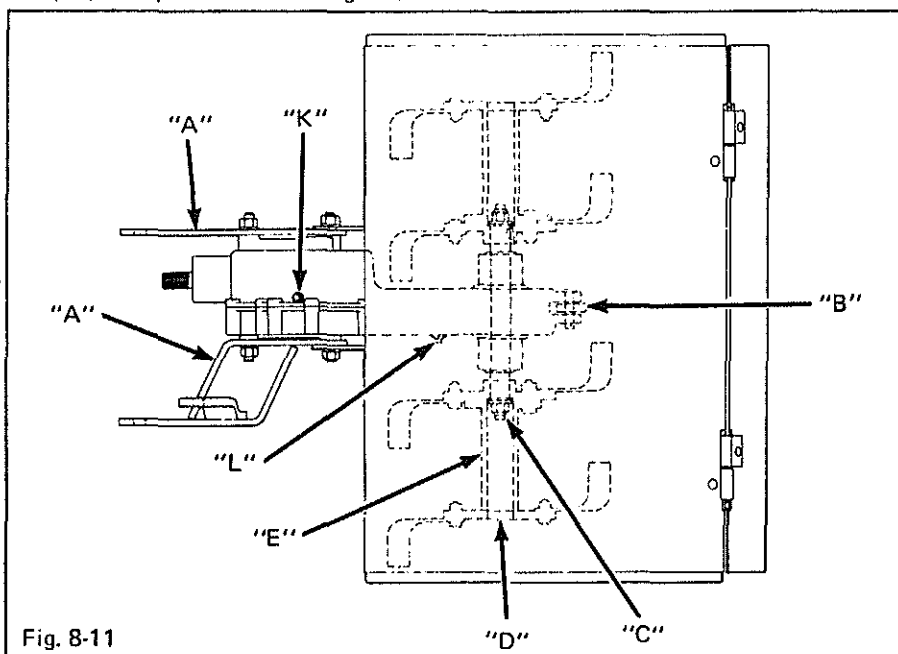

Fig. 8-11
4. Assemble oil seal (B).
5. If tine shaft (G) is to be reassembled, pack grease between seals (H). Also, apply grease to exposed shaft (G).
6. With the gear case on a flat surface, fill case through either the top plug hole (K) Figure 8-11 or side hole (L) to hole (L) level with EP90 gear lube.